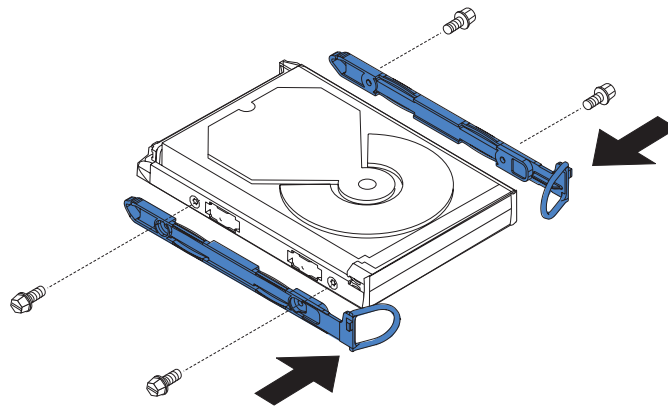

Figure 109. Attaching the rails to the SAN Volume Controller 2145-4F2 disk drive
8. If you are exchanging the disk drive for another, see Figure 109. Find the rails and screws that are shipped with the new disk drive. Attach the rails to the disk drive.